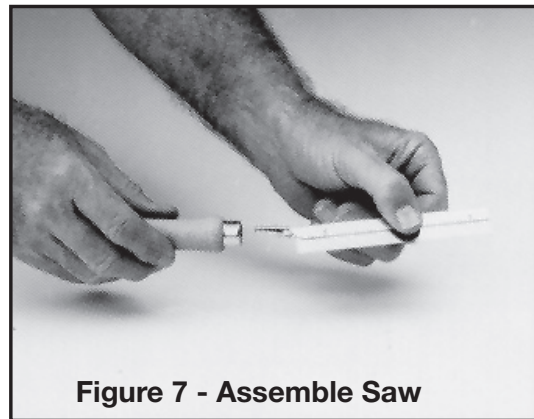

Figure 7 - Assemble Saw
4. Assemble the saw blade and wooden saw handle provided. To assemble the saw, grip the saw frame in a vise, just below the neck. Drive the handle fully onto the neck. (See Figure 7.) This will reduce the tendency of the handle to turn on the saw frame when sawing.